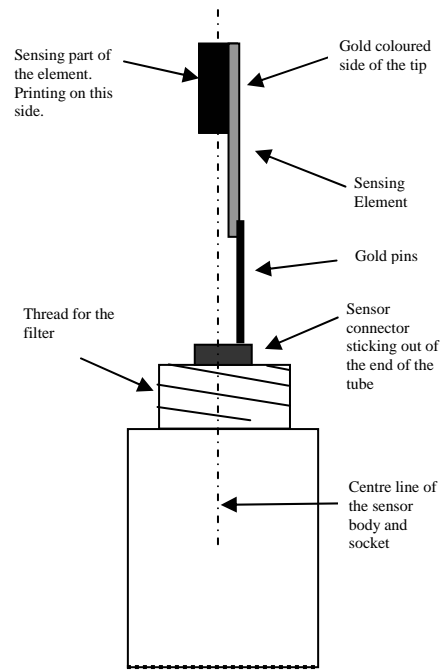
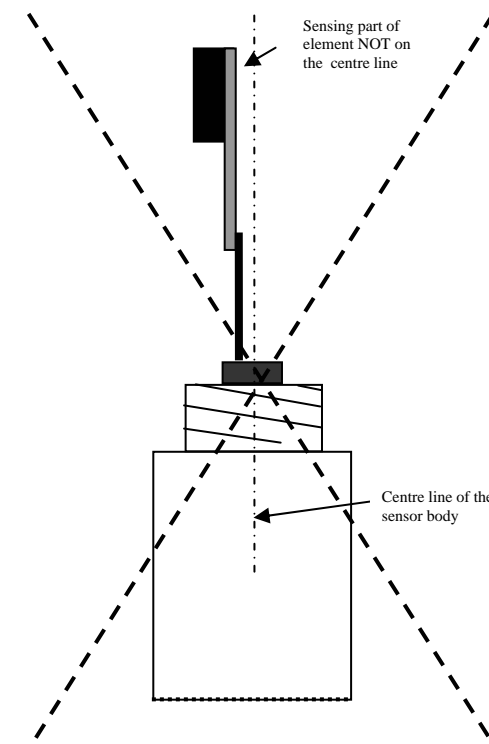

Figure 4a Correct Fitment of Sensor Element (Side View)
Figure 4b Incorrect Fitment of Sensor Element (Side View)
3. Identify the sensor element referring to figure 4a below, which shows a side-on view of the end of the probe and sensor element. Before removing the element carefully study the probe and note its orientation after reading the following description:
- Figure 4a shows the correct orientation, whilst figure 4b shows the incorrect orientation